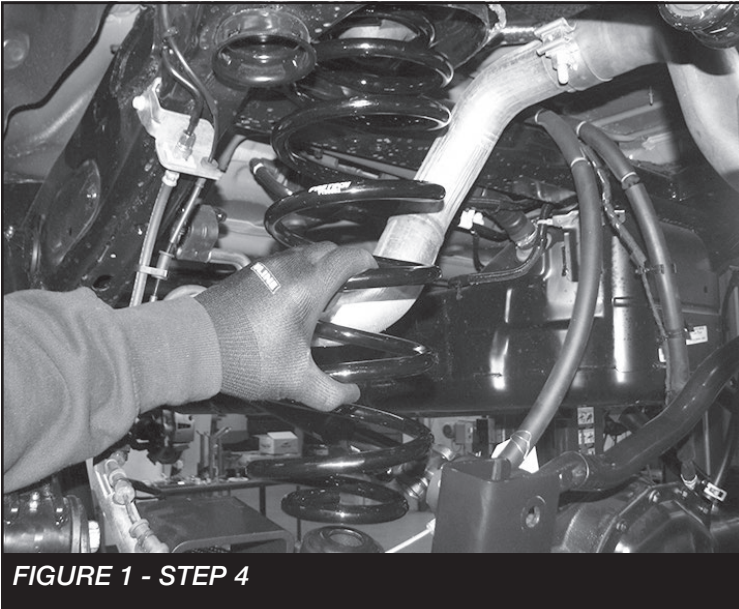

FIGURE 1 - STEP 4
4. Install the new Fabtech rear coil springs FT50776 (Driver Rear) & FT50777 (Pass Rear) using the factory rubber isolators. **SEE FIGURE 1**